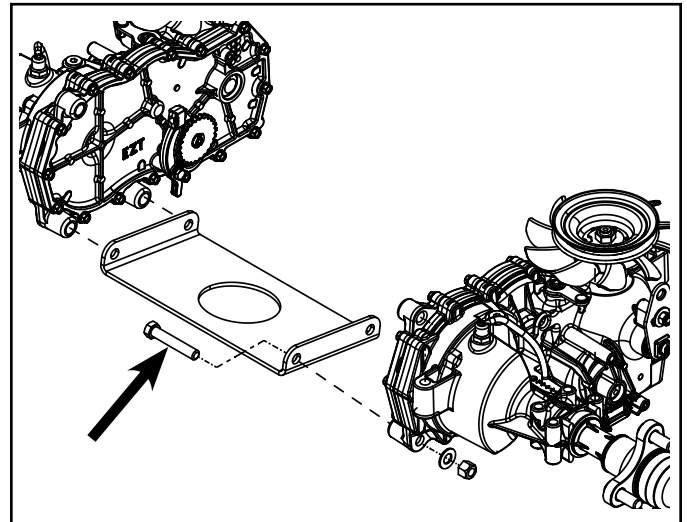

Fig. 066
Narrow Frame – Remove the (4) mounting fasteners (Fig. 066).